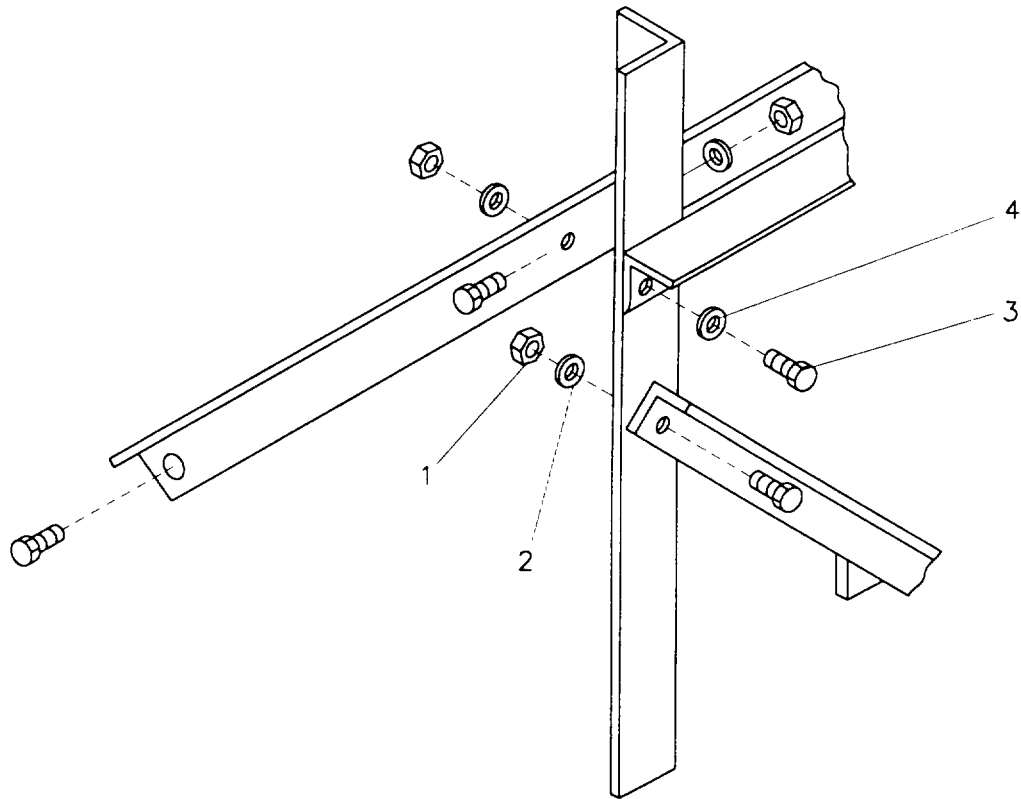

Figure 5-3. Tilt Rack Assembly Repair
**5-4. TILT RACK ASSEMBLY REPAIR.** (Refer to Figure 5-3)